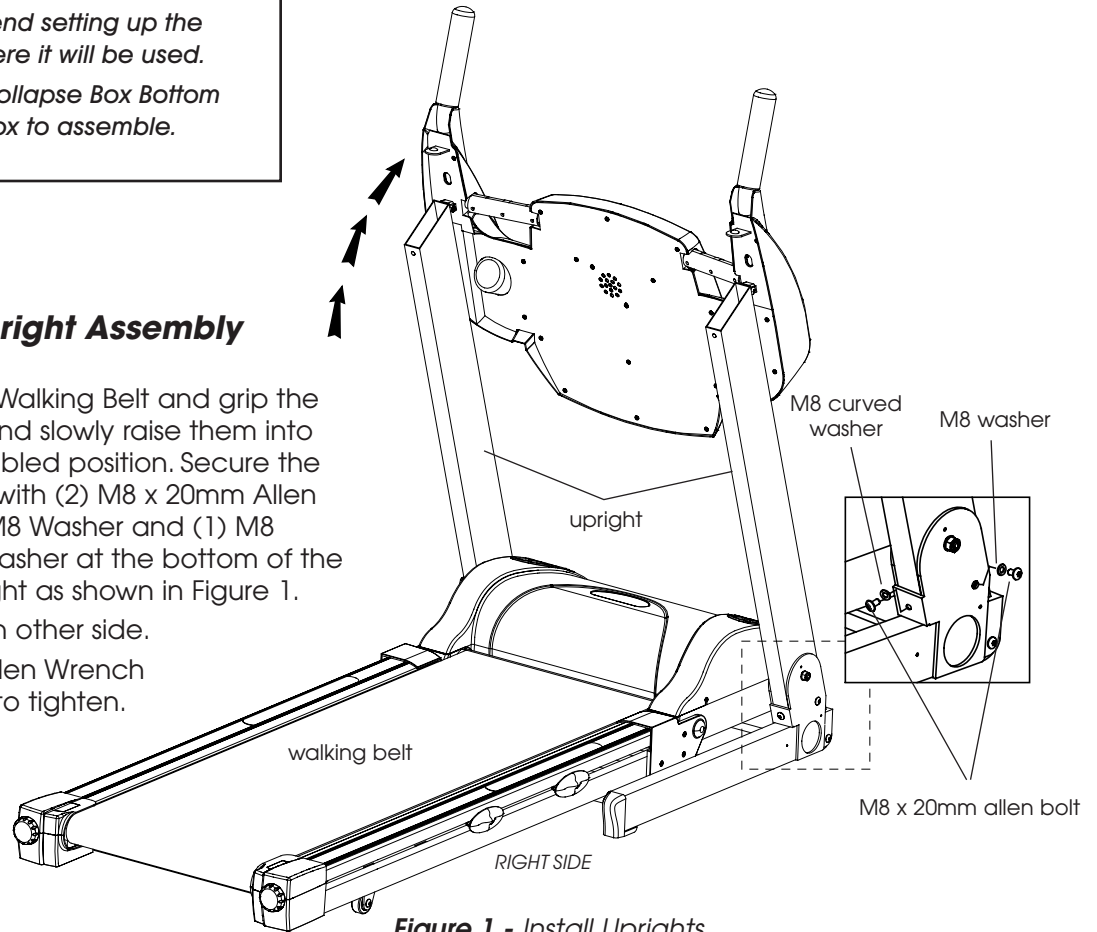

Figure 1 - Install Uprights
- Stand on Walking Belt and grip the uprights and slowly raise them into the assembled position. Secure the right side with (2) M8 x 20mm Allen Bolts, (1) M8 Washer and (1) M8 Curved Washer at the bottom of the right Upright as shown in Figure 1. Repeat on other side.